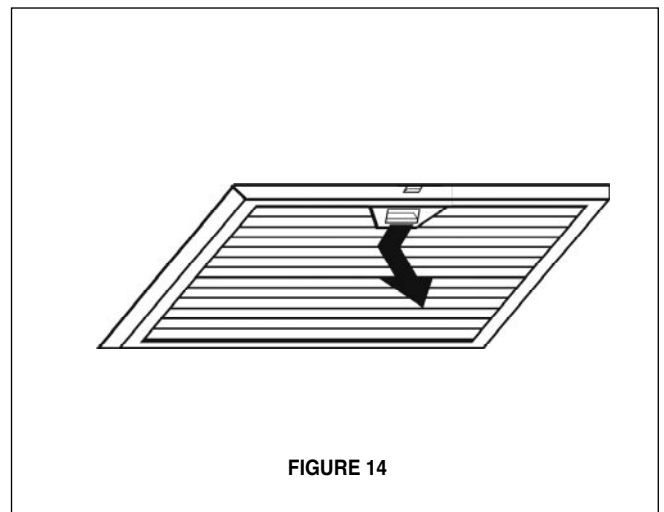

FIGURE 14
6. Install the grease filters (FIGURE 14).